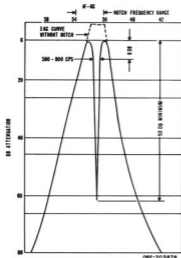

Figure 9. IF Selectivity Curve With Notch
The manner in which the notch filter will affect the IF selectivity of the receiver is illustrated in Fig. 9. The filter will suppress an extremely narrow band of frequencies within the IF bandpass range of the receiver. The effectiveness of this notch is many times greater than the notch of a quartz crystal filter at 400
**NOTCH FREQ. CONTROL** - This control tunes the notch in the IF passband and may be set anywhere in the range of from 50 KC to 54 KC. The approximate frequency is calibrated on the knob skirt. While tuning this control for maximum suppression of the interfering heterodyne with minimum distortion to the desired signal, try to visualize the notch moving across the selectivity curve (See Fig. 9). It is then readily apparent that improper tuning may notch out the desired signal instead of the heterodyne. It may be necessary to move the notch across the desired signal in order to reach the heterodyne that you desire to suppress. The important consideration is to tune the NOTCH FREQUENCY control for maximum heterodyne suppression with minimum distortion to the desired signal.